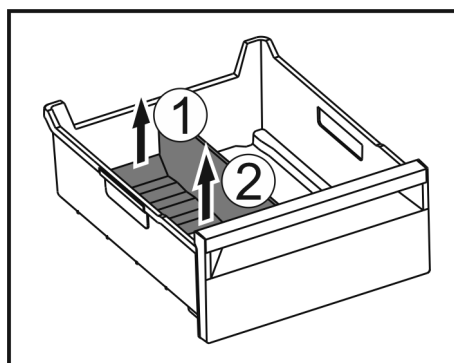

Fig. 146
- ▶ Lift the rear part of the ice compartment divider. Fig. 146 (1)
- ▶ Remove the ice compartment divider upwards. Fig. 146 (2)